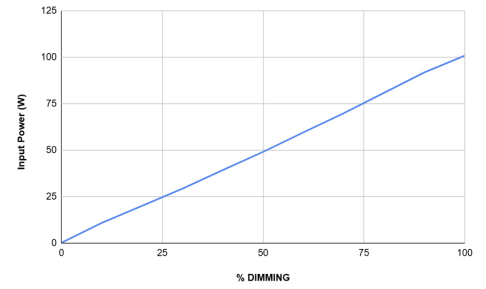

FIG. 57
14. The performance graph (Fig. 57) shows the expected dimming response curve. This measurement was taken using five 20W AQL-882 fixtures (100W total) and represents typical performance.